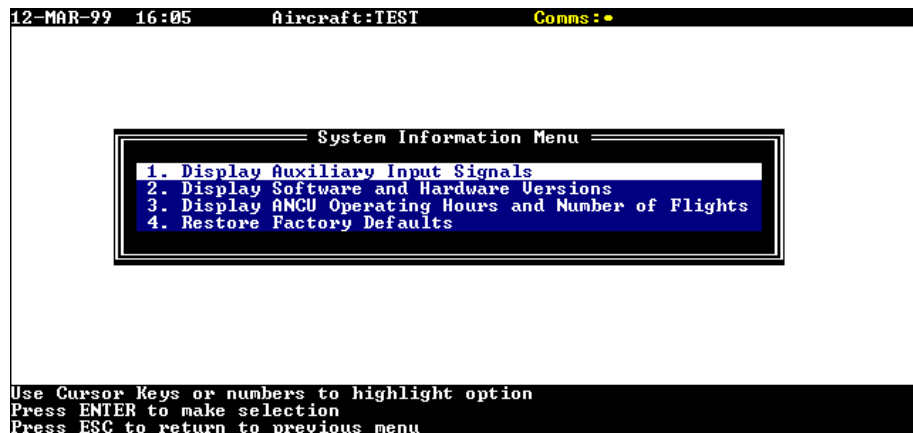

Figure 3.26 – 'System Information Menu' screen.
- (5) Edit Data Files Directory
- (6) Erase Calibration Data
- (a) Select 'Erase Calibration Data from ANCU' from the 'System Calibration Menu' and press <ENTER>. The 'Erase Calibration Data' screen will be shown on the MT display (Ref. Figure 3.26).
- (1) System Information Menu
- (a) From the 'Main Menu' select 'System Information Menu' and press <ENTER>. The 'System Information Menu' will be shown on the MT display (Ref. Figure 3.26).